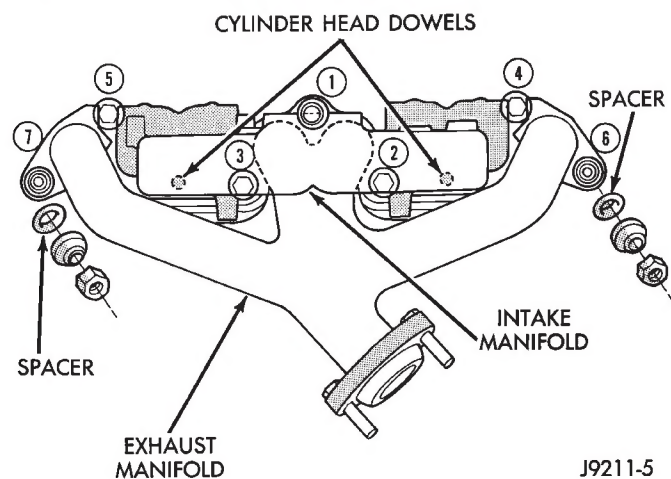

Fig. 11 Intake/Engine Exhaust Manifold Installation (2.5L Engine)
(1) Disconnect the battery negative cable.
(2) Remove all components attached to the intake manifold.
(3) Raise the vehicle.
(4) Disconnect the exhaust pipe from the engine exhaust manifold.
(5) Lower the vehicle.
(6) Remove fasteners 2 through 5 and remove the intake manifold (Fig. 11).
(7) Remove fasteners 1, 6 and 7 and remove the engine exhaust manifold (Fig. 11).
(1) Install a new intake manifold gasket over the alignment dowels on the cylinder head.
(2) Install the engine exhaust manifold assembly. **Exhaust manifold must be centrally located over the end studs and spacer (Fig. 11).**
(3) Tighten bolt No.1 to 41 N·m (30 ft. lbs.) torque (Fig. 11).
(4) Install the intake manifold on the cylinder head dowels (Fig. 11).
(5) Install bolts 2 through 5 (Fig. 11). Tighten these bolts to 31 N·m (23 ft. lbs.) torque.
(6) Install new engine exhaust manifold spacers over the engine exhaust manifold mounting studs in the cylinder head (Fig. 11).
(7) Tighten nuts 6 and 7 to 31 N·m (23 ft. lbs.) torque (Fig. 11).
(8) Install all components to the intake manifold.
(9) Raise the vehicle.
(10) Connect the exhaust pipe to the engine exhaust manifold. Tighten the bolts to 31 N·m (23 ft. lbs.) torque.
(11) Lower the vehicle.
(12) Connect the battery negative cable.
(13) Start the engine and check for leaks.
(13) Remove the molded vacuum harness.
(14) Disconnect the vacuum brake booster hose at the intake manifold.
(15) Remove bolts 2 through 5 securing the intake manifold to the cylinder head (Fig. 11). Slightly loosen bolt No.1 and nuts 6 and 7.
(16) Remove the intake manifold and gaskets. Drain the coolant from the manifold.
(1) Install the new intake manifold gasket over the locating dowels.
(2) Position the manifold in place and finger tighten the mounting bolts.
(3) Tighten the fasteners in sequence and to the specified torque (Fig. 11).
(4) Connect the fuel return and supply tube to the connector next to the fuel rail. Push them into the fitting until a click is heard. Verify that the connections are complete.
(5) Connect the molded vacuum hoses to the vacuum port on the intake manifold and the cylinder head cover.
(6) Connect the electrical connectors.